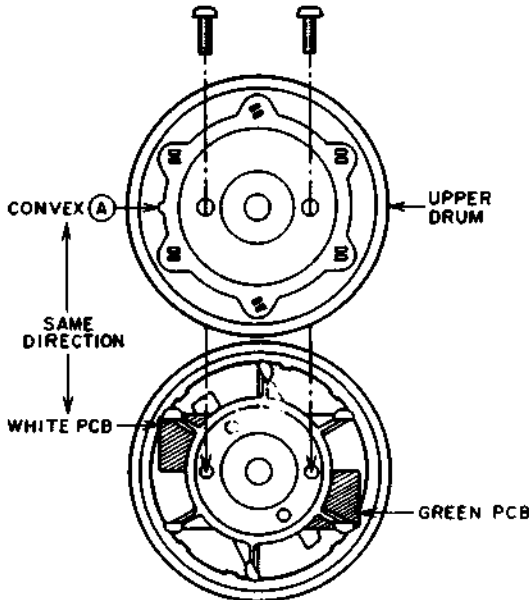

Fig. 4-20
Attach the UPPER DRUM to the LOWER DRUM ROTOR so that the upper drum convex (A) and lower drum rotor's white PCB side are in the same direction as shown in Fig. 4-20.